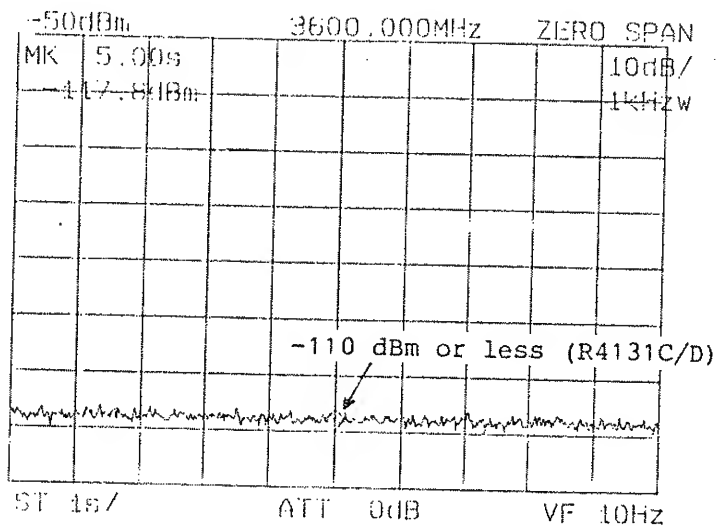

Figure 11-22 Average Noise Level Test
- ④ Set the video filter to 10 Hz. (See Figure 11-22) Check that the marker level reading is -110 dBm or less (R4131C/D), and -108 dBm or less (R4131CN/DN).